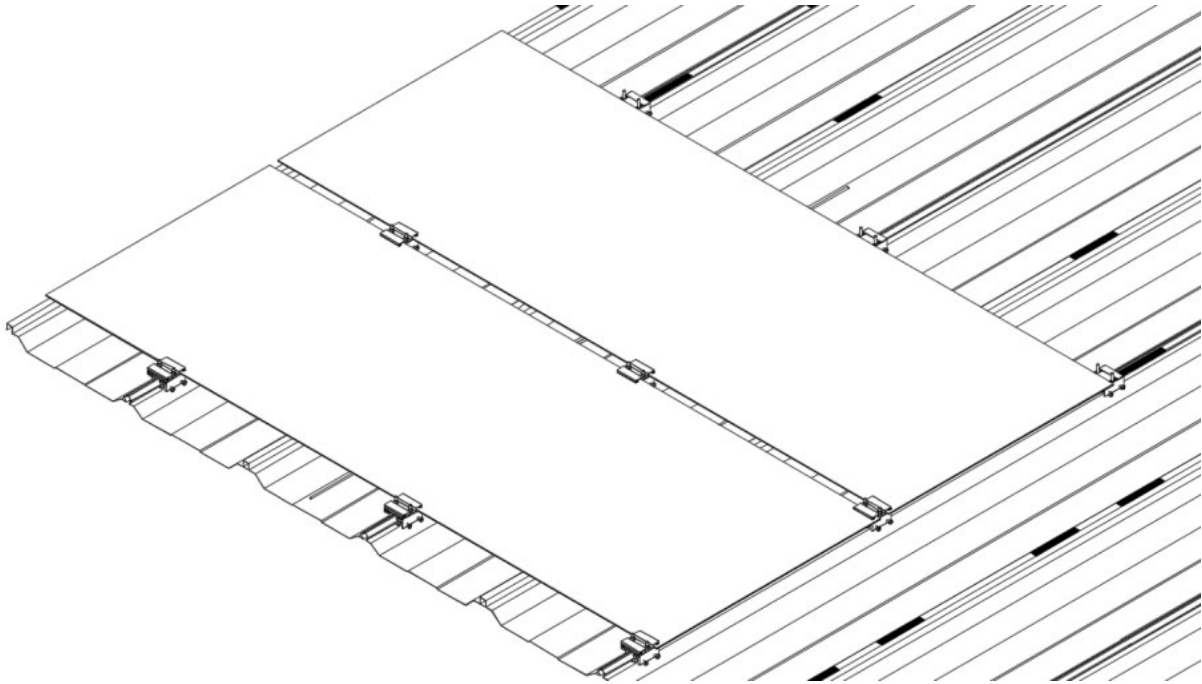

FIGURE 13
⑨ Referring to the installation procedure for the first product, complete the installation of the second product in turn (Figure 13)